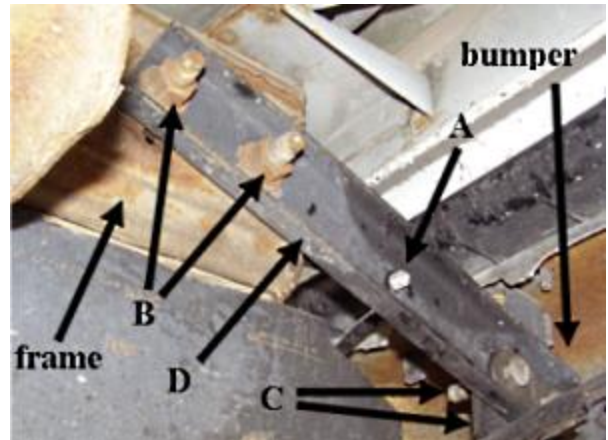

Figure 2
3. For 1999 through 2007 models remove plastic electrical wire keepers (**A**) from the center holes in the bumper support brackets. (**Figure 2**).
4. Remove the nuts from the two bolt assemblies (**B and C Figure 2**) that secure the rear bumper support bracket (**D**) to the frame and bumper on one side. Note that each bolt assembly consists of two 14 mm bolts linked together.